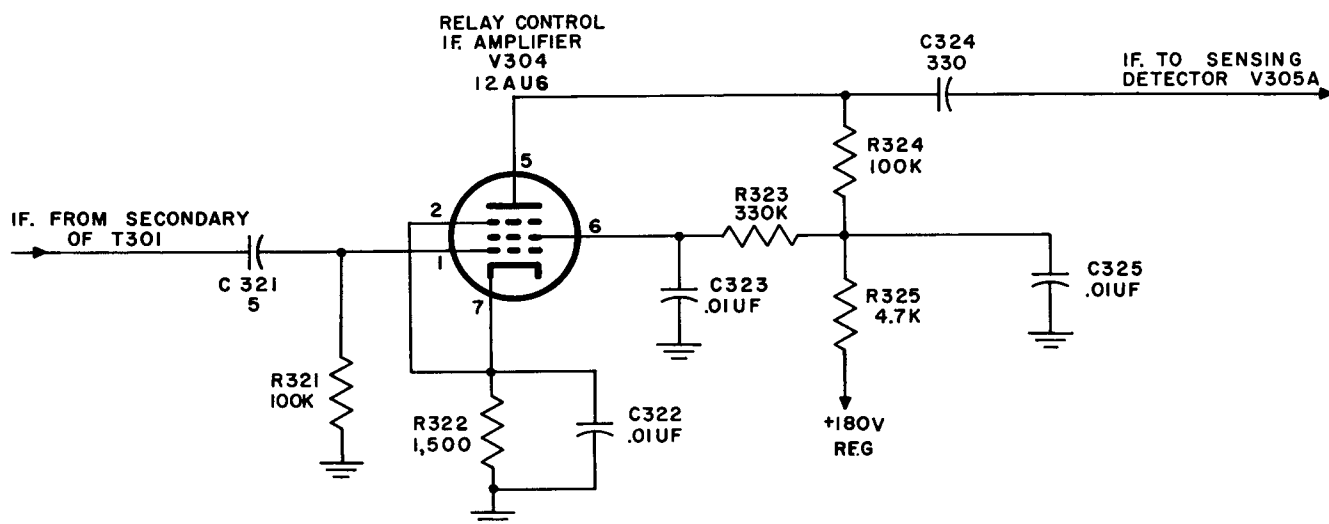

Figure 61. Relay control if. amplifier, simplified schematic diagram.
92. Relay Control If. Amplifier V304 (fig. 61)